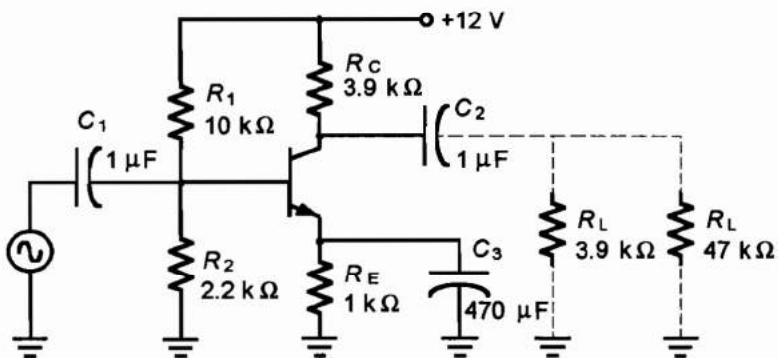

Figure 17.1
1. Build the circuit of Figure 17.1, without connecting a load resistance at this time.
1. What would be the gain of the amplifier in Figure 17.1 if the value of  $R_C$  were changed to 5 k $\Omega$ ? (Assume no change in quiescent operating point.)
2. What should be the normal AC voltage read at the emitter of the transistor amplifier of Figure 17.1?
3. If the amplifier of Figure 17.1 were exactly midpoint biased ( $V_{CZ} = 6$  V), what would be the maximum undistorted peak output voltage swing?
4. If capacitor  $C_3$  in Figure 17.1 shorted, the transistor would likely be \_\_\_\_\_.